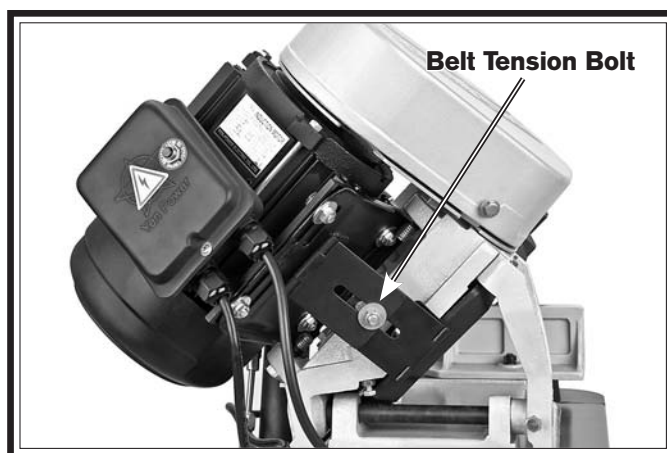

Figure 50. Motor tension bolt.
2. Open the belt cover, then loosen the belt tension bolt shown in **Figure 50** to allow the motor to pivot.